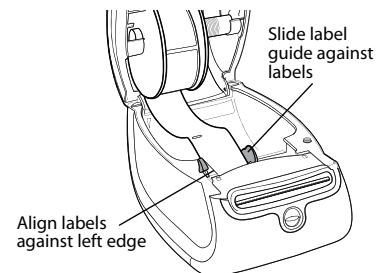

Figure 4
- The labels must be loaded with the left edge of the label inserted against the left edge of the label feed slot. See Figure 4.
- 7 Align the left edge of the label with the left edge of the label feed slot and insert the label into the slot. See Figure 4.
- 8 **(450, 450 Turbo, Duo, and Twin Turbo Only)** Slide the label guide to the left until the label guide aligns with the right edge of the label. See Figure 4.